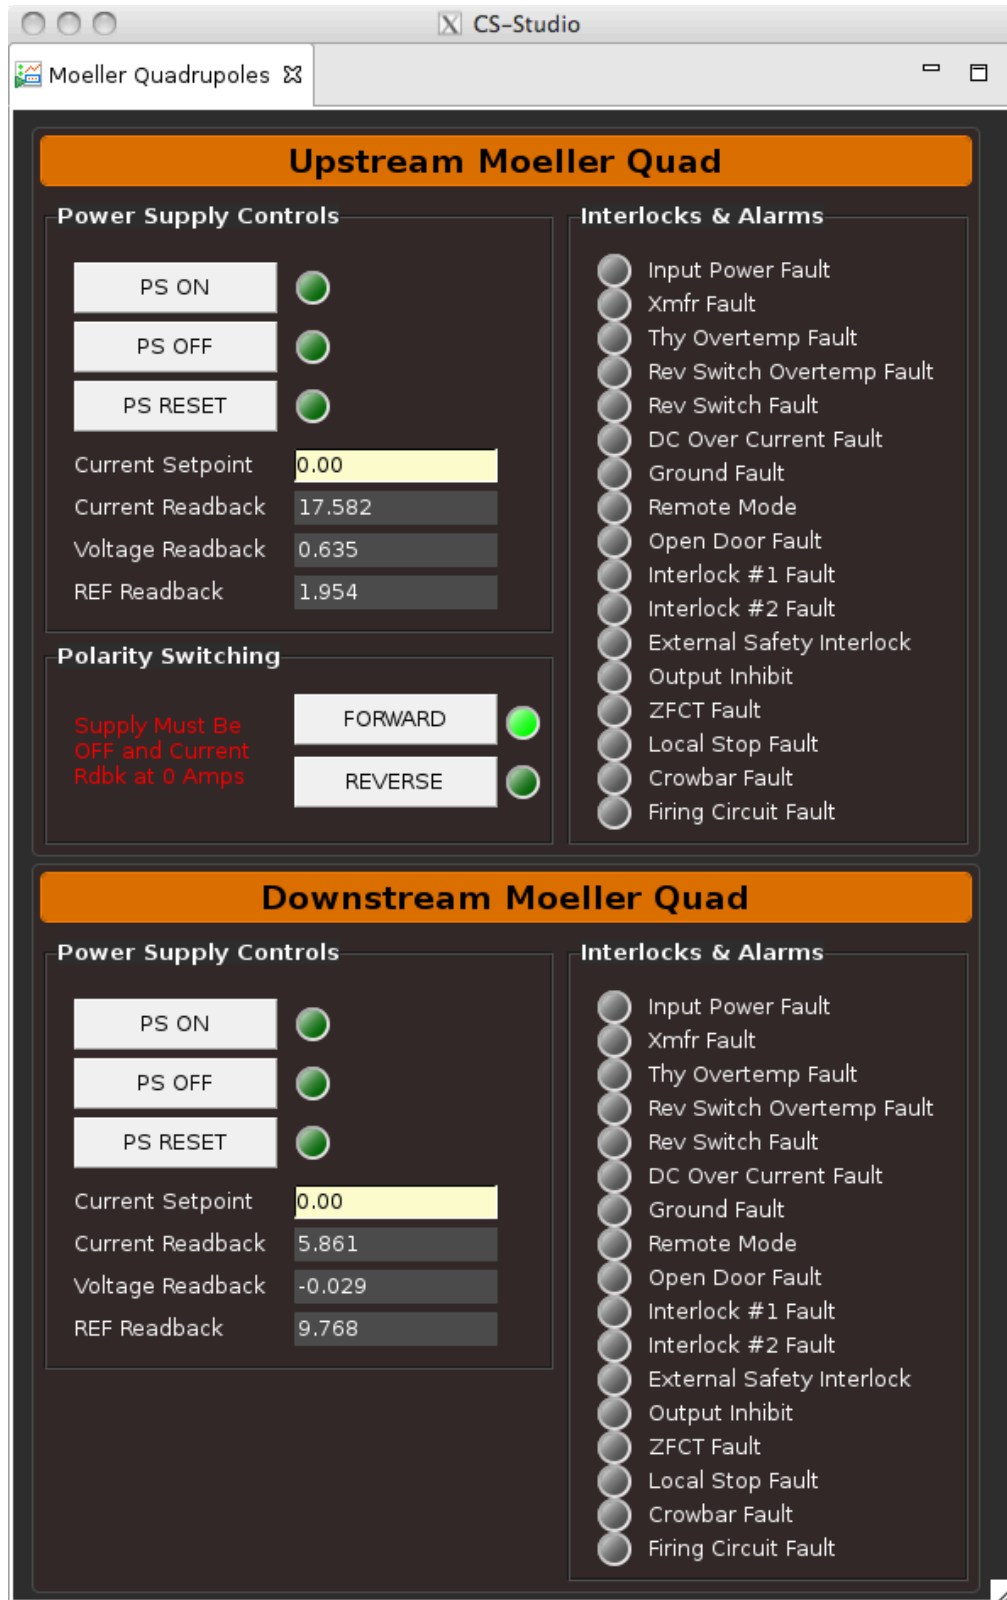

FIG. 3: Control GUI for the Møller quadrupole power supplies.
- (b) The control for Møller quadrupole power supplies are provided in "Moeller Quadrupoles" GUI, see Fig.3. Power supplies will be turned ON and in remote before hall closing. From GUI one should first turn them on by pushing the "PS ON" buttons, then set the desired value for currents in "Current Setpoint" window. For 10.7 GeV the suggested value for the quadrupoles is 3050 A.